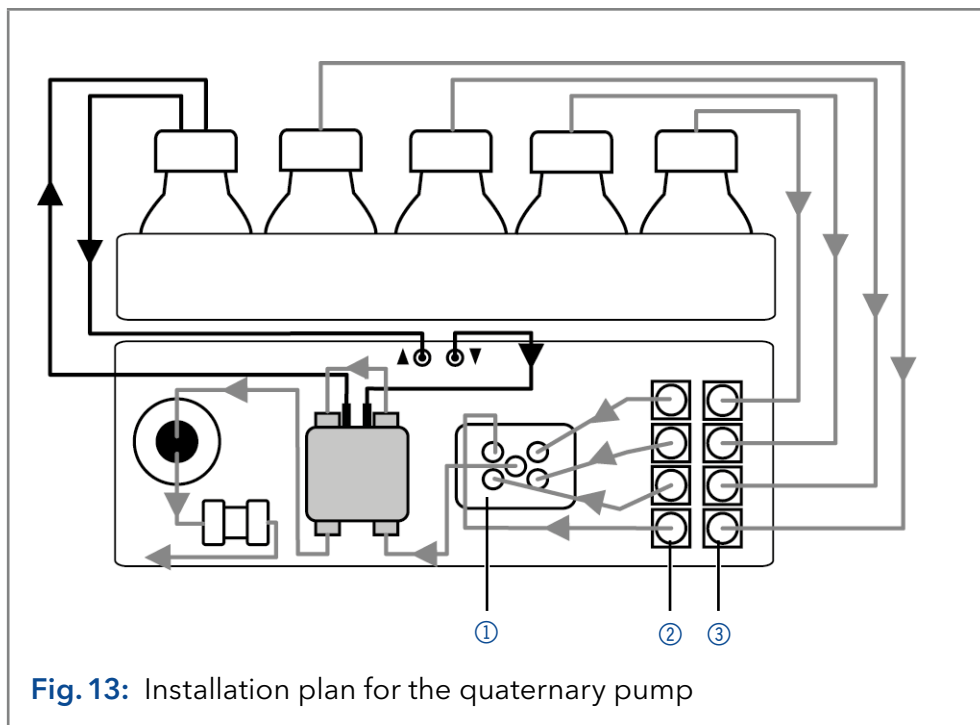

Fig. 13: Installation plan for the quaternary pump
The degasser outlet ② is readily connected to the valve block ① (see Fig. 13).